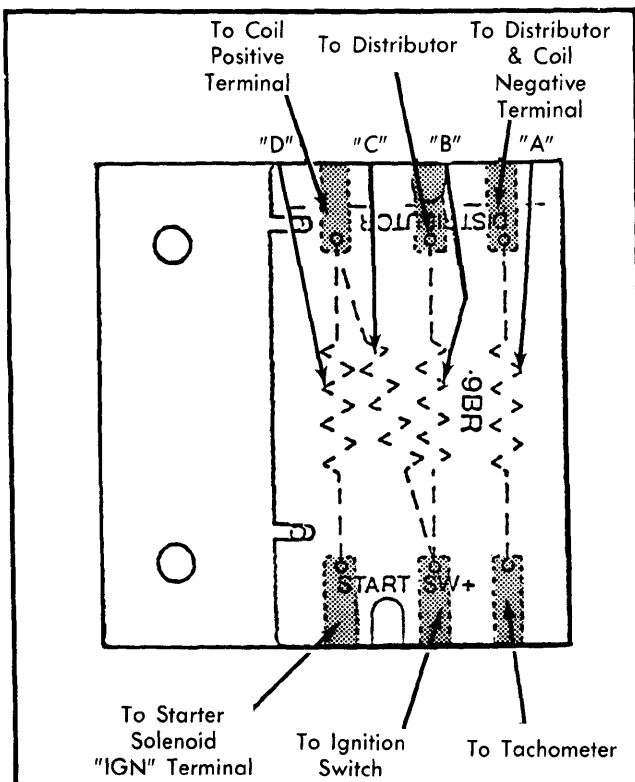

Fig. 3 Model 9BR Ballast Resistor Connections
2) Turn ignition switch "OFF". Connect ohmmeter leads to each set of terminals shown in Fig. 3. Resistor reading "A" (tachometer connection) should be 9,000-11,000 ohms. Reading "B" (drive resistor) should be 0.5 ohm; reading "C" (ballast ignition resistor) should be 1.62-1.80 ohms, and reading "D" (ballast resistor) should read 0.25-0.28 ohm. If not, replace ballast resistor assembly.